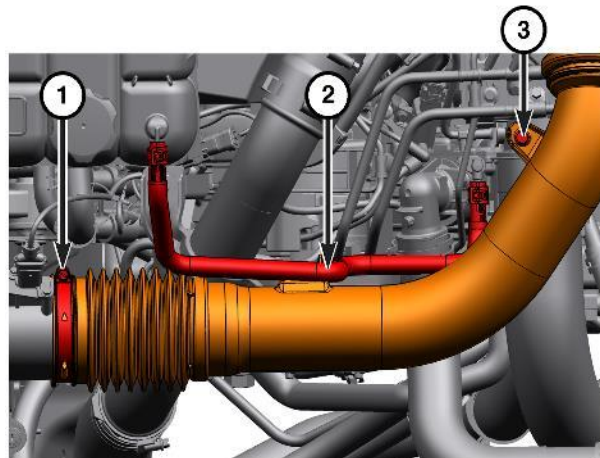

Figure 21 – Clean Air Hose
1. Loosen the clamp (1) and disconnect the clean air hose (Figure 21).
2. Detach the coolant hose retainer (2) from the clean air hose (Figure 21).
3. Remove the bolt (3) securing the clean air hose (Figure 21).